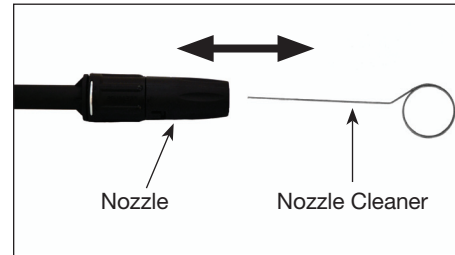

Figure 15
- Using the included nozzle cleaner, or an un-folded paper clip, insert wire into the nozzle hole and move back and forth until debris is dislodged (refer to Figure 15).